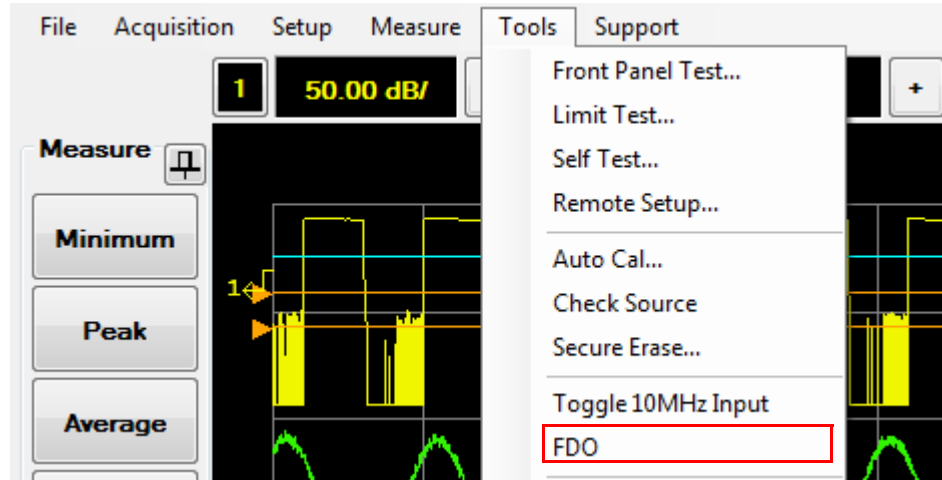

Figure 2-70 FDO selection in the Tools menu
- 1 Select **Tools > FDO** on the toolbar as shown in Figure 2-70.